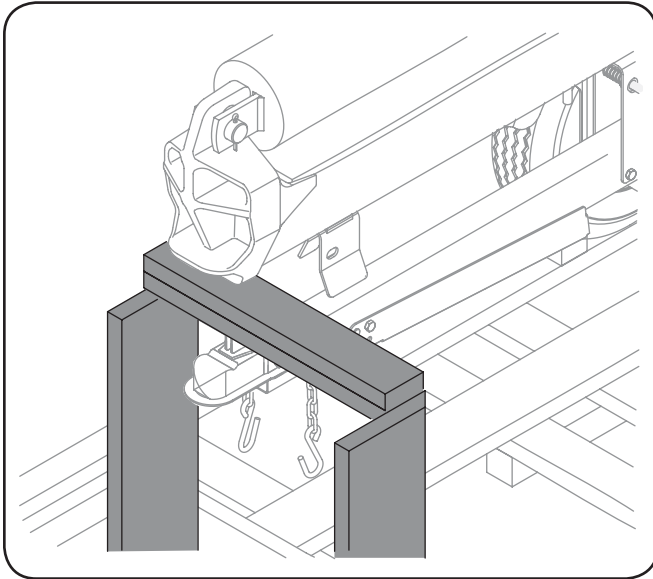

Figure 3-1
**WARNING!** Do not remove the beam support or attempt to remove the machine from the crate until after you have completed *all* assembly steps. See Fig 3-1.